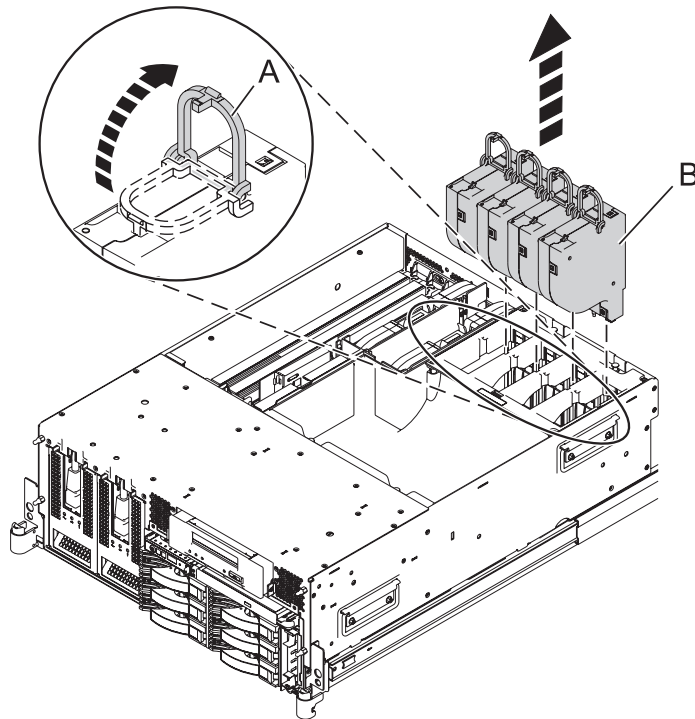

Figure 20. Removing the fans
9. Remove the fans by lifting each of the fan pull tabs (**A**) and lifting the fans (**B**) out of the system as shown in Figure 20.